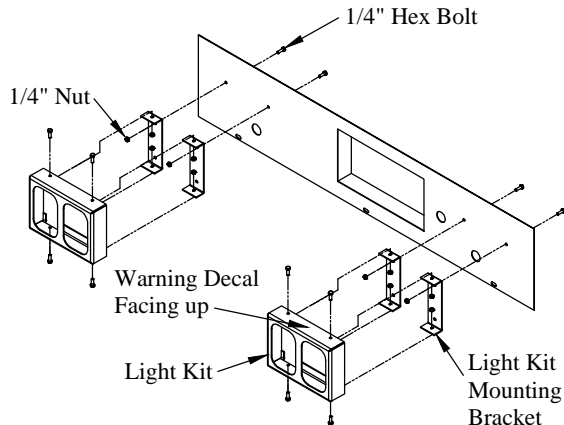

Figure 24: Light kit assembly location.
15. **Bolt** the light kit to the box cover using the supplied 1/4" bolts and nuts (Figure 24).
16. **Tighten** all light kit bolts to 9ft-lb (Figure 24).